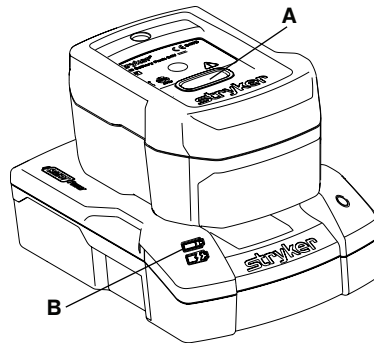

Figure 26 – Charging the SMRT Pak
To charge the **SMRT** Pak (Figure 26):
- The **SMRT** charger LED indicator (B) will flash green while charging (Figure 26). The optimum charge time is two hours.
- When the **SMRT Pak** is charged and ready for use, the **SMRT** charger LED indicator (B) turns to solid green.
2. Press the red release button (A) (Figure 26) and slide the **SMRT Pak** to release the charged and ready **SMRT Pak** from the **SMRT** charger.